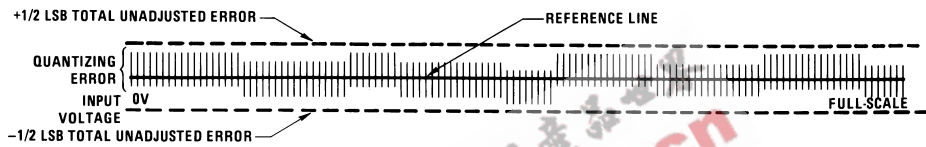

FIGURE 4. Typical Error Curve
*Figure 4* shows a typical error curve for the ADC0816 as measured using the procedures outlined in AN-179.